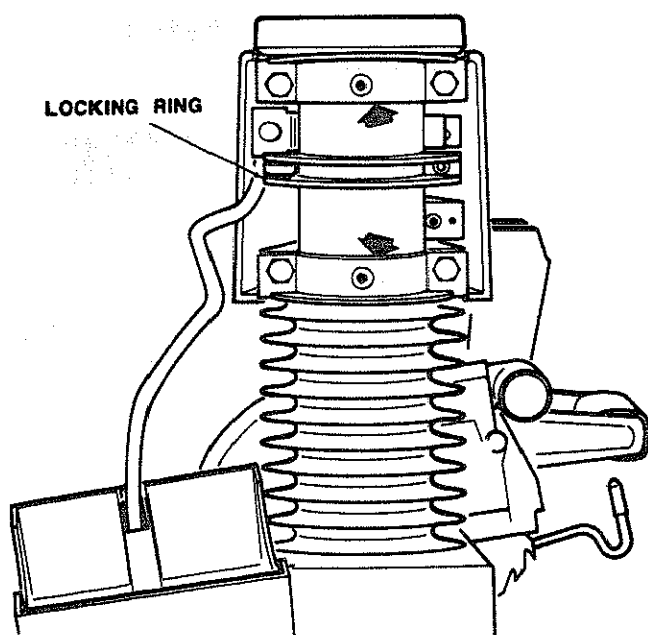

Fig. 175 - Bearing Points Where Arm Attaches to Column Tube
- Lubricate the bearing points where the *arm* attaches to the *column tube*. With a #2 Phillips screwdriver remove two screws and the rear arm cover for access to these points. Be careful not to get lubricant on the *locking rings* as this will adversely affect the miter locking function. (Figure 175)